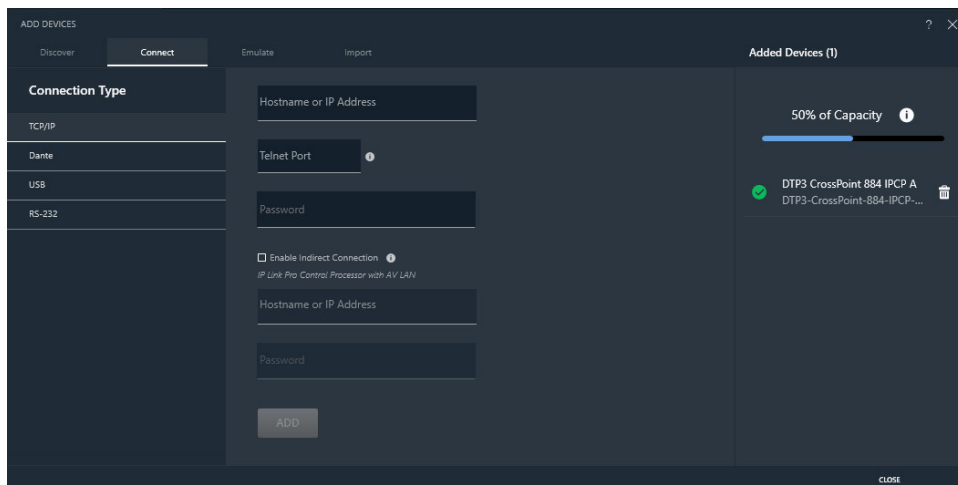

Figure 42. Connect to the Device via TCP/IP
- b. Enter the IP address of the device in the **Hostname or IP Address** field (see figure 42). If necessary, enter the port in the **Telnet Port** field and device password in the **Password** field.